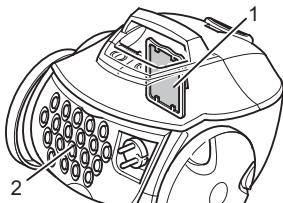

Fig.21
- **A protective motor filter (Fig. 21/1)** prevents larger particles from destroying the motor if the dust filter bag is defective.
- **A hygienic exhaust filter (Fig. 21/2)** filters the finest particles from the blown-out air.